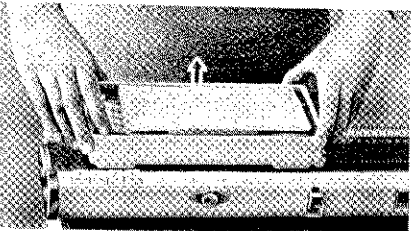

Fig. 4
4. Remove the accessory box on the needle bed, the accessory box is on the right. Lift the accessory box and it will come off from the needle butts and rail. (See Fig. 4)